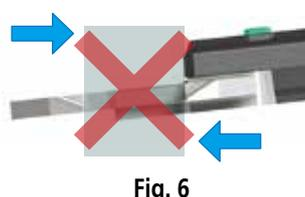

Fig. 6
2. Do not measure an object with the measuring faces tilted. (**Fig. 6**)
3. Do not measure an object with the measuring faces tilted. (**Fig. 6**)